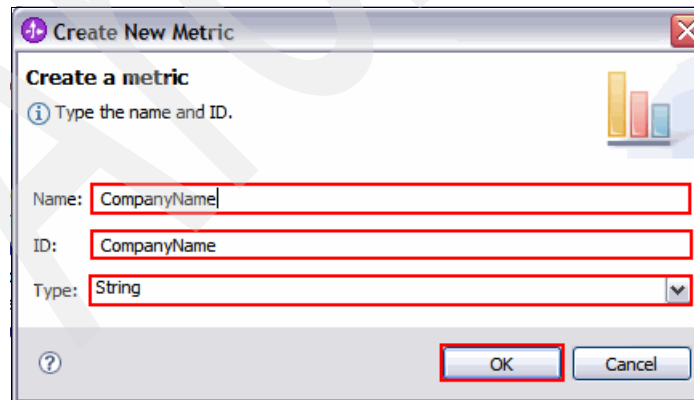

Figure 7-80 Create New Metric window
2. In the Create New Metric window (Figure 7-80), for Name and ID, type **CompanyName**, and for Type, select **String**. Then click **OK**.